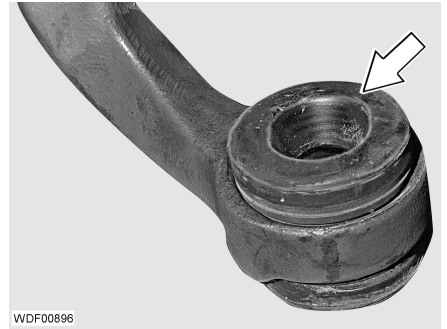

Fig. 65 Installation position
- Position the new rubber buffers in such a way that the sinkhole points away from the engine mount (Fig. 65).